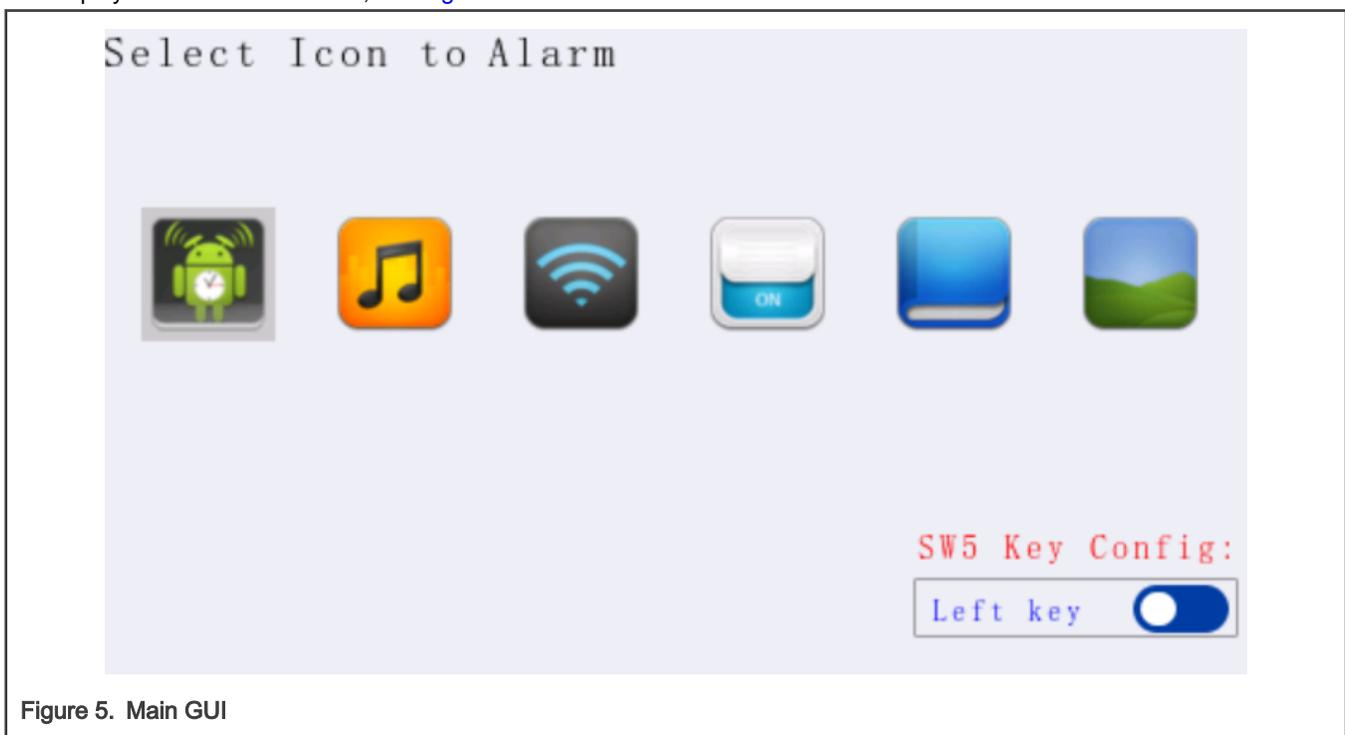

Figure 5. Main GUI
The main GUI presents six icons with a square focusing on one as the selected in Figure 5. With a key input, the square is moved left/right to focus on an icon which is presented in the screen. When the square has reached to the most left / right icon in the screen, it stops moving while the icons are moved left / right one by one so that a new icon is presented with an old one invisible in the screen until there is no more new icon to be shown.
There is a label on the left top of the screen, see Figure 5. It shows the name of the current focused icon with the movement.
- A total of 12 icons are used for the demo. Six icons are displayed in a screen, see Figure 5. The size of each icon is "48*48" (so they can be stored in SRAM and so it does in the demo).
For display effect of the main GUI, see Figure 5.
To develop the main GUI with GUI Guider, we can take advantage of the image widget of GUI Guider to convert the icons to the C code conforming to the requests of LVGL. Additionally, the icons on the screen, see Figure 5 can be created with GUI Guider at first. Later, we can do some modifications in KEIL project based on the generated code by GUI Guider. Thus, it saves much workload.
It is not difficult to implement the main GUI like Figure 5 with GUI Guider. With generating the code for the main GUI from GUI Guider, add them to the KEIL non-OS LVGL GUI project and modify the code as below sides: